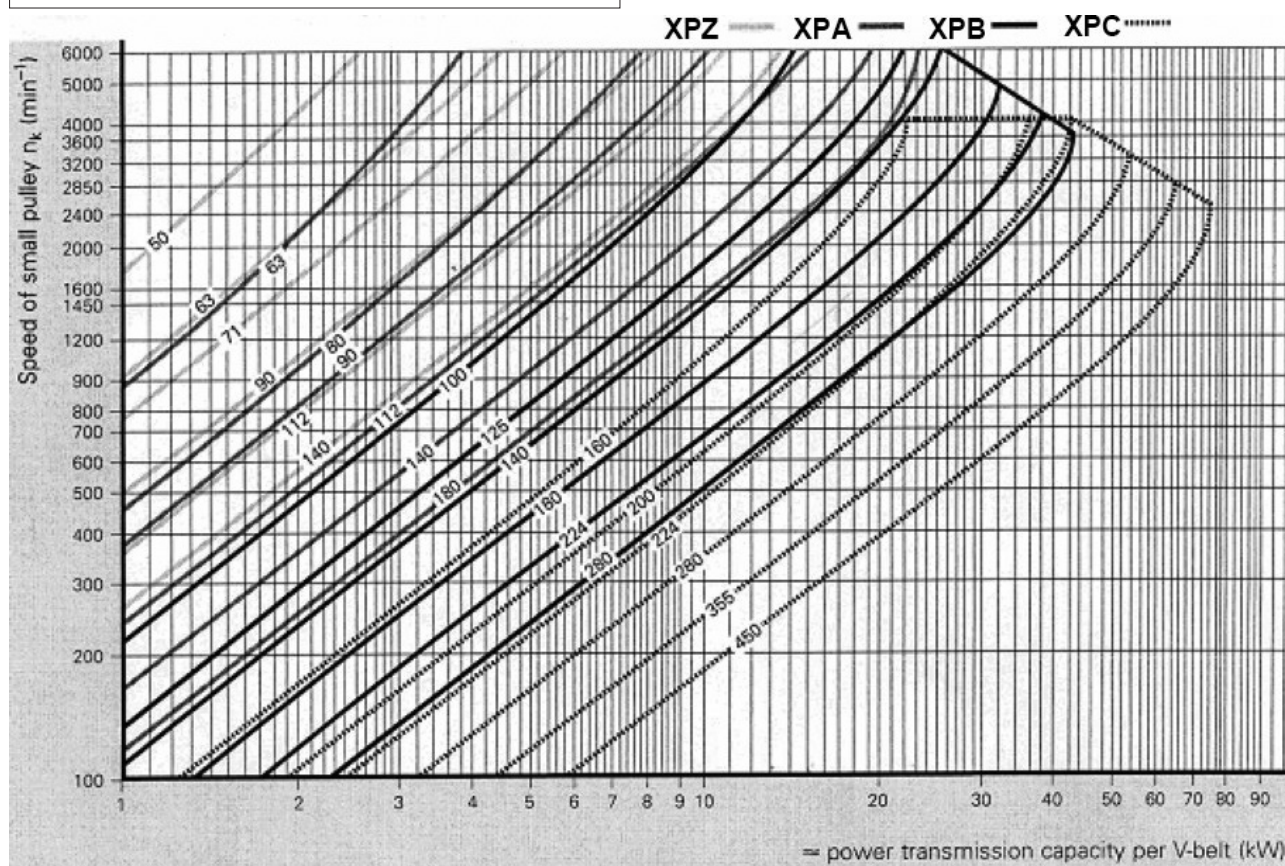
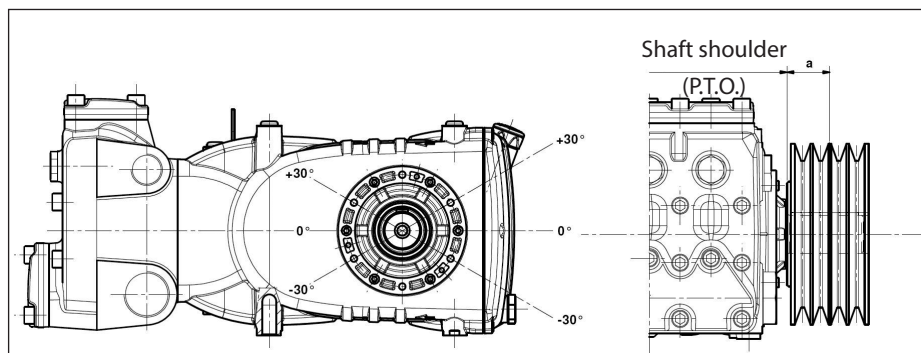

Fig. 7
Fig. 10
For this pump model, we recommend to use No. 4 XPB belts (16.5x13 serrated). Use an XPC profile only for long durations. Both the characteristics and transmissible power of each belt can be verified in the diagram in Fig. 7, in relation to the number of rpm normally declared by the manufacturer. Minimum duct pulley diameter (on pump shaft): ≥ 250 mm. The radial load on the shaft must not exceed 7500 N (value necessary for Layout definition). The transmission is considered adequate if the load is applied to a maximum distance **a=40 mm** from the shaft shoulder (P.T.O) as shown in Fig. 10.
- b) Use high performance belts – for example **XPB** instead of **SPB** – as a lower quantity of belts for the same transmitted power may be necessary and a consequent shorter resulting distance compared to the shaft shoulder (P.T.O) "a" of Fig. 10.